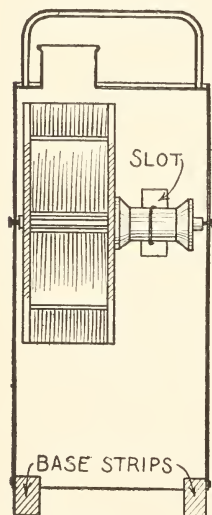

Fig. 63
**The Water-Motor Wheel** is shown in the cross-sections of the water-motor (Figs. 63 and 64), and Figs. 65 to 67 show its details. The diameter of the wheel should be about  $\frac{1}{2}$  inch less than the inside width of the can. In
FIGS. 63 and 64. — Sections through Water-Motor Case.
and make this slot large enough so the cord will not rub against the sides (Fig. 63).